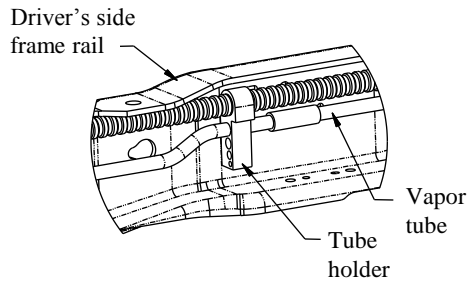
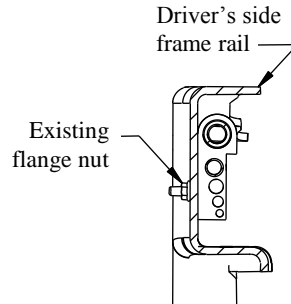
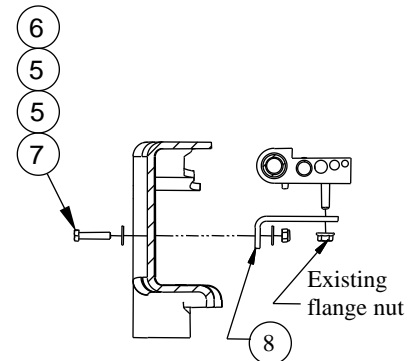

Figure 1a
Figure 1b
Figure 1c
2. **On Gas Engine Vehicles Only.** The vapor tube running along the inside of the driver's side frame rail must be relocated prior to installing the driver's side bracket. See Figure 1a. Remove the flange nut from the outside of the frame and keep for later use. See Figure 1b. Rotate the tubes up and out of the way. Install the L-bracket (8) with 1/4" hardware (5)(6)(7), as shown in Figure 1c. Tighten the L-bracket (8) to the frame, but leave the tube holder loose to aid bracket installation.
13. **On Gas Engine Vehicles Only.** Use the factory flange nut that was removed in Step 2 to tighten the tube holder onto the L-bracket as shown in Figure 1c.